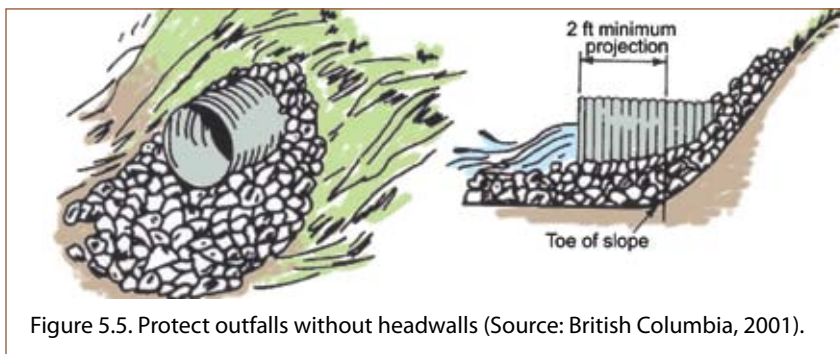

Figure 5.5. Protect outfalls without headwalls (Source: British Columbia, 2001).
- Place rock around and above outlets with no headwalls (Figure 5.5).